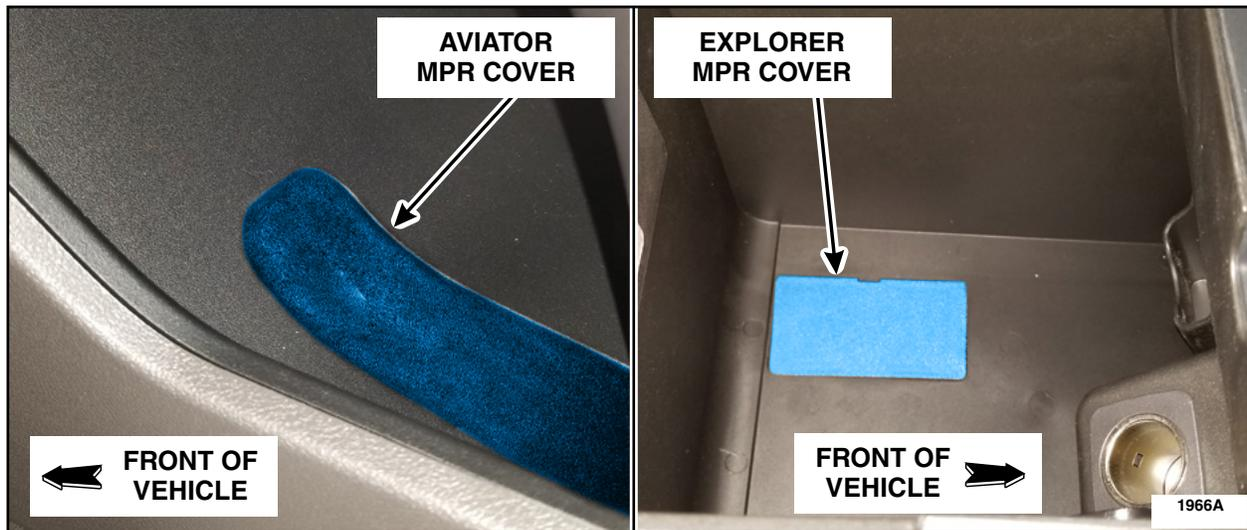

FIGURE 1
1. Locate the Manual Parking Release (MPR) cover. See Figure 1.